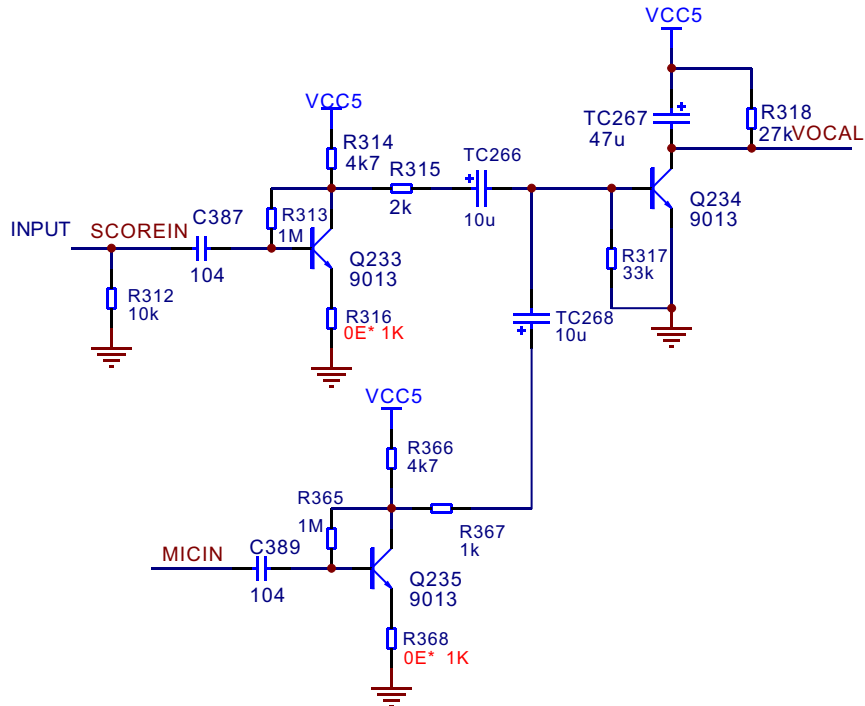

Figure 3.2.11.1 Scoring circuit diagram
1. Scoring detect circuit is shown as the following figure 3.2.11.1: